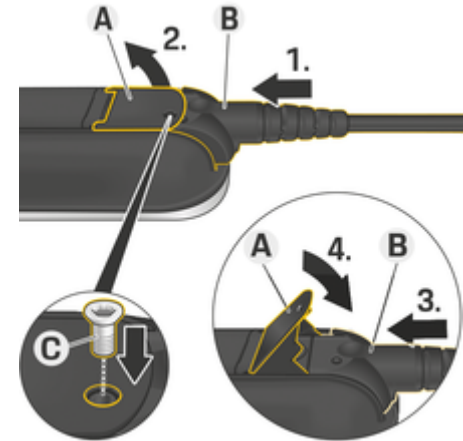

Fig. 19: Connecting cables and securing plugs
- ✓ Lever **A** (Fig. 19) is closed.
1. Insert plug **B** (Fig. 19) into the control unit until you first feel resistance.
5. Secure plug **B** to the control unit with screw **C** (Fig. 19).